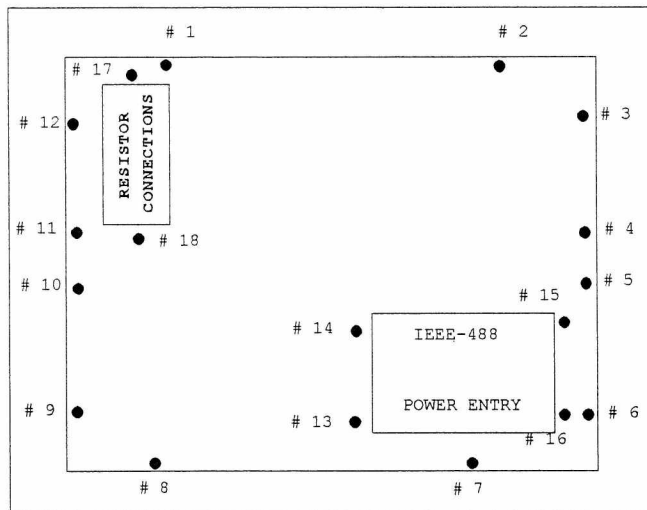

Figure 13... Back panel
1) Remove the screws labelled # 1 and # 2 (see figure 13).
2) Remove all the remaining screws from the back panel (see figure 13 # 1 to # 17).